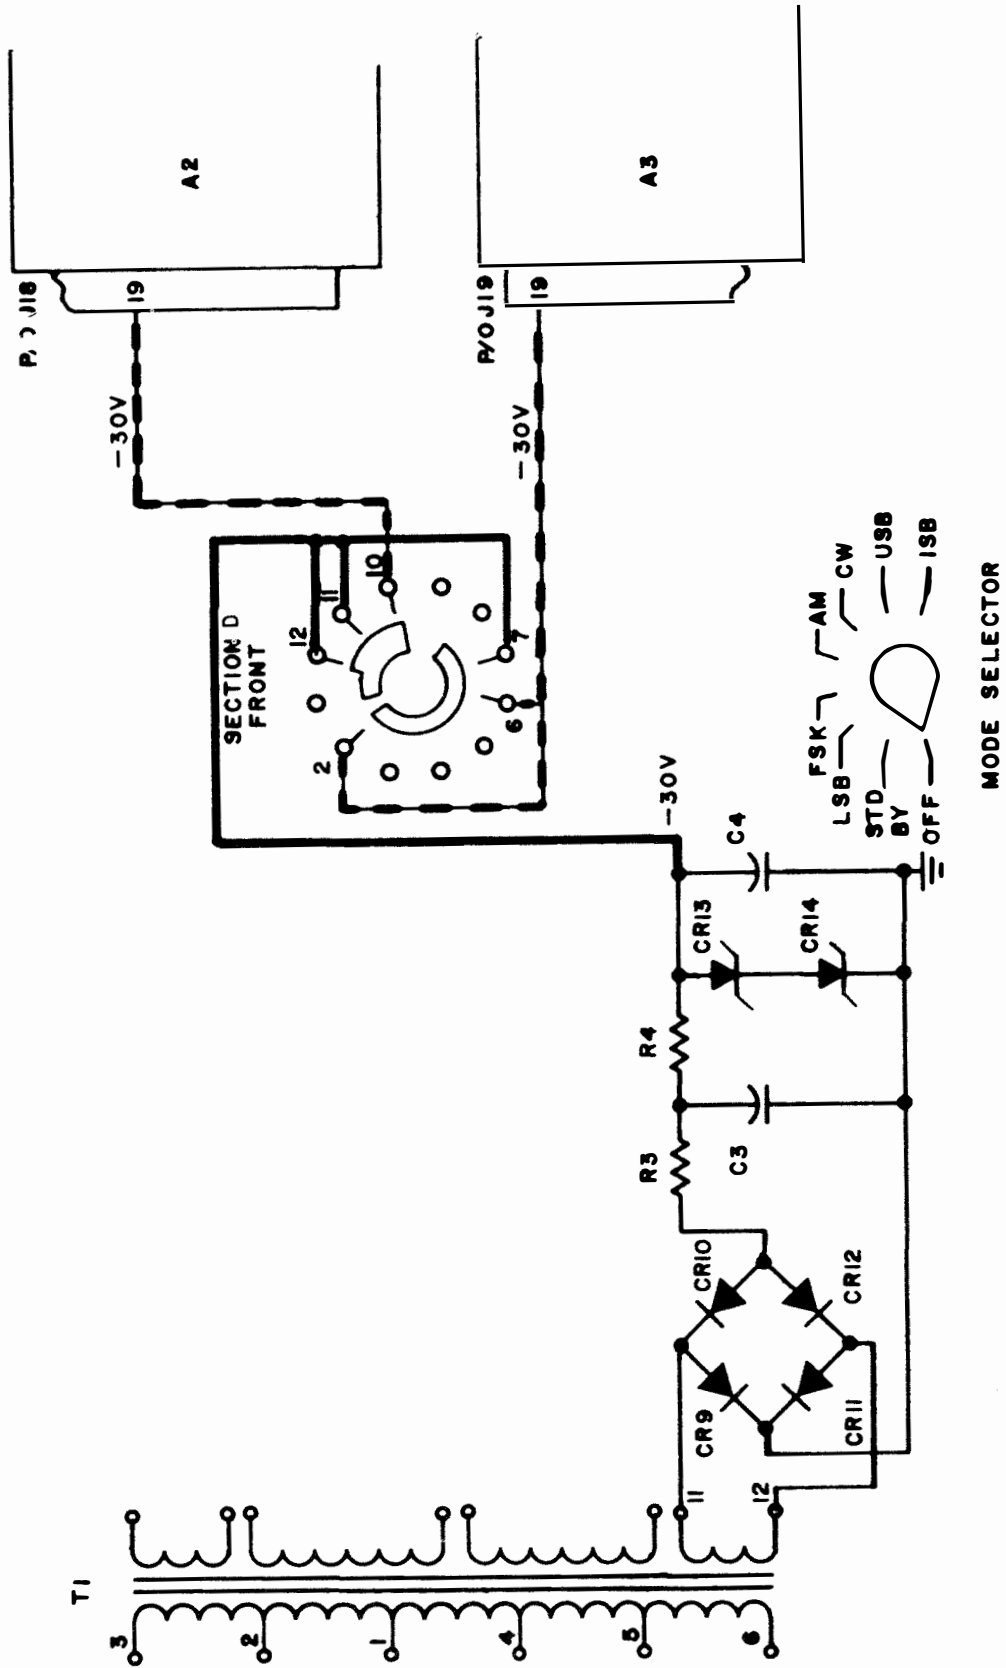

FIGURE 5
6. Using a ORANGE pencil or fine point felt tip pen and Figure 5, color code and mainframe -30 VDC power supply distribution.